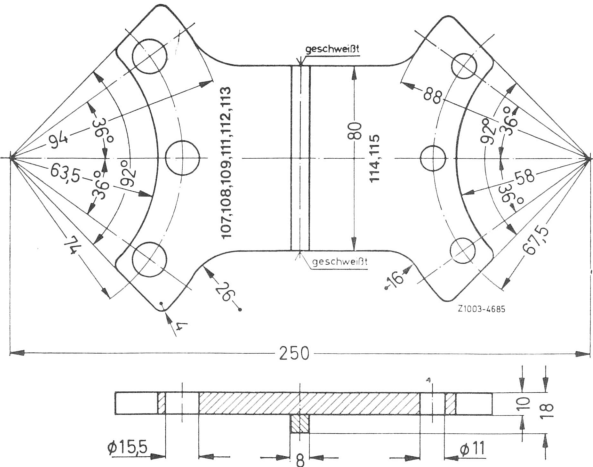

Fig. 1
Clamping fixture for differential	Self-made according to Fig. 1
- 1 Clamp differential with clamping fixture (Fig. 1) into vise.